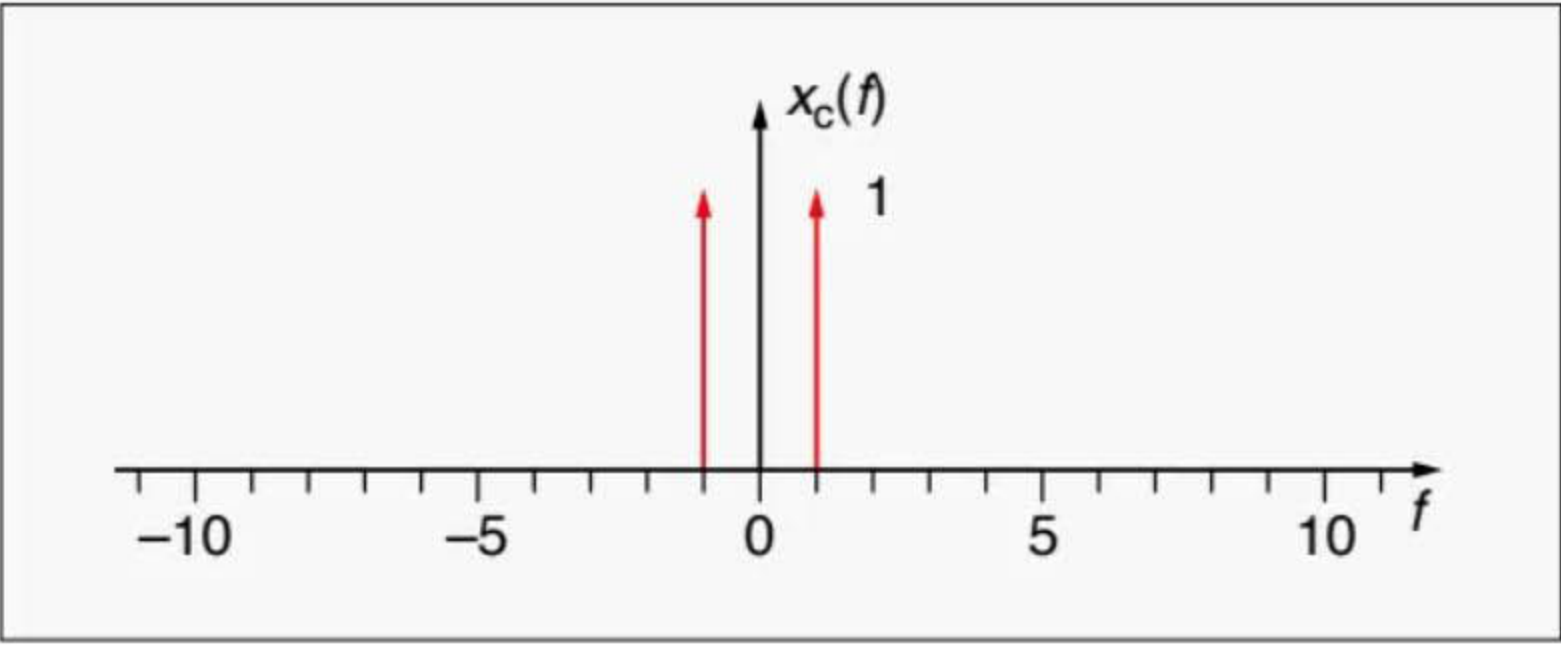
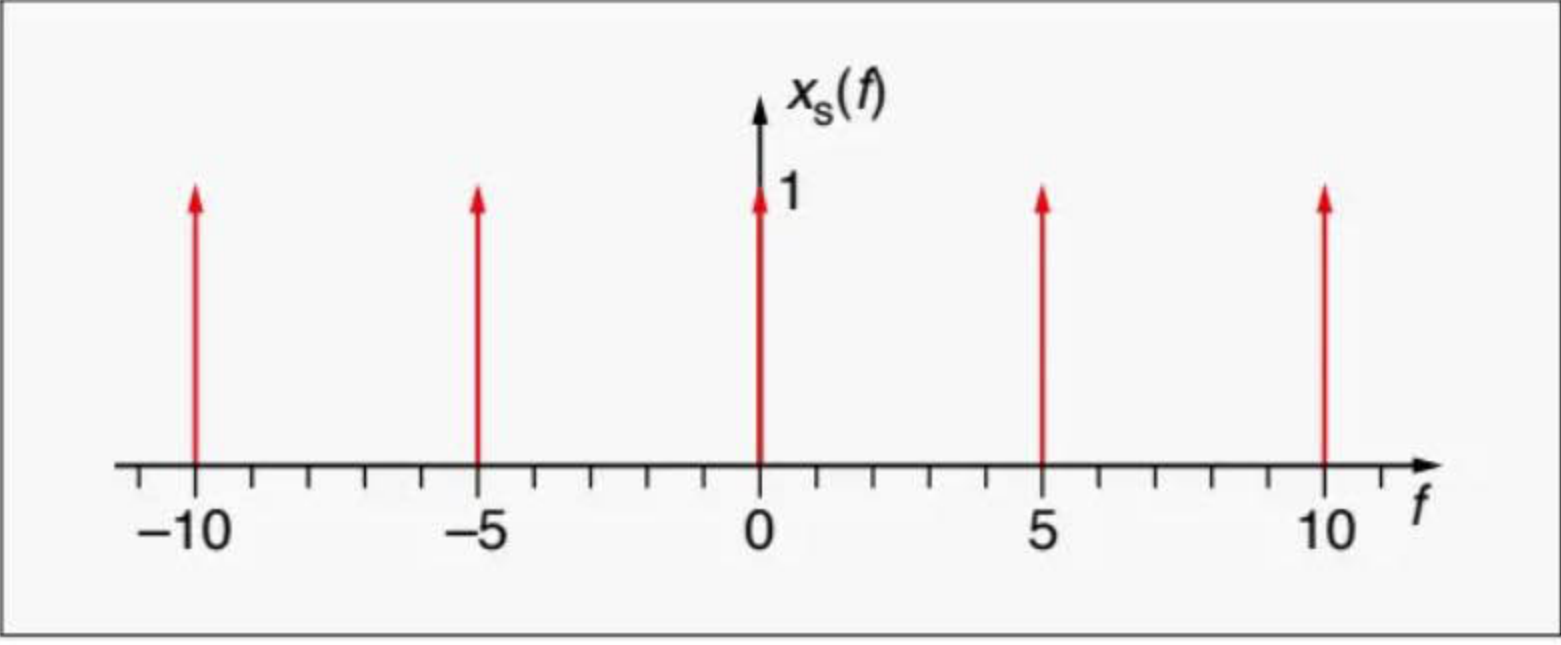

Fig.13. Spectrum of sine wave of frequency *f* = 1 which is sampled.
Fig.14. Spectrum of the sampling impulse train with sample frequency *f* = 5.
Consider a sine wave of frequency 1 (arbitrary units, but could be kHz) and sampling rate of 5 (could be 5kHz). The sine wave spectrum is *x*_{*c*}(*f*), which corresponds to *f*() in the convolution equation and is shown in Fig.13. Its value is zero for all cases except *x*_{*c*}(-1) and *x*_{*c*}(1). The sampling signal spectrum *s*(*f*) corresponds to *g*() in the convolution equation and is shown in Fig.14. Its value is zero for all cases except *s*(0) and *s*(*n*) where *n* is a multiple of 5. In general, the amplitude of *s*(*f*) is the amplitude of the pulse divided by *T* (sampling period); however, we will just assume it is 1 for simplicity.